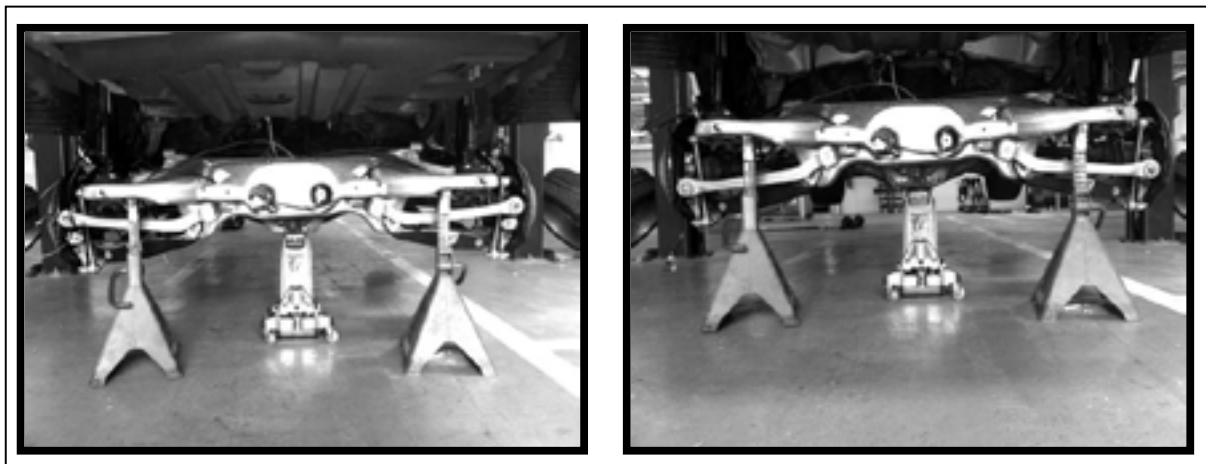

FIGURE 10-27
30.0 WITH VEHICLE ON LIFT, SUPPORT CROSSMEMBER ASSEMBLY ON STANDS, AND RAISE VEHICLE TO ACCESS SPRINGS. (FIGURE 10-27)